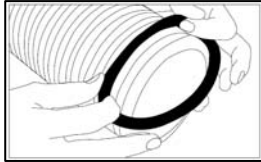
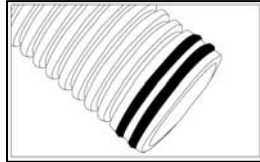
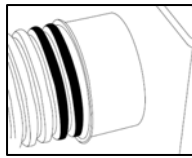

Figure 7
Figure 7A
Figure 7B
**Step #7 (See Figure 7, Figure 7A and Figure 7B)**